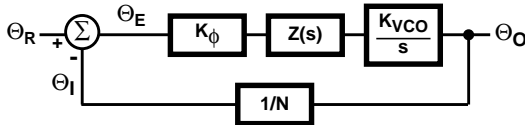
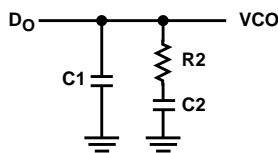

FIGURE 22. PLL LINEAR MODEL
FIGURE 23. PASSIVE LOOP FILTER
A linear control system model of the phase feedback for a PLL in the locked state is shown in Figure 22. The open loop gain is the product of the phase comparator gain (K_ϕ), the VCO gain (K_{VCO}/s), and the loop filter gain $Z(s)$ divided by the gain of the feedback counter modulus (N). The passive loop filter configuration used is displayed in Figure 23, while the complex impedance of the filter is given in Equation 2.